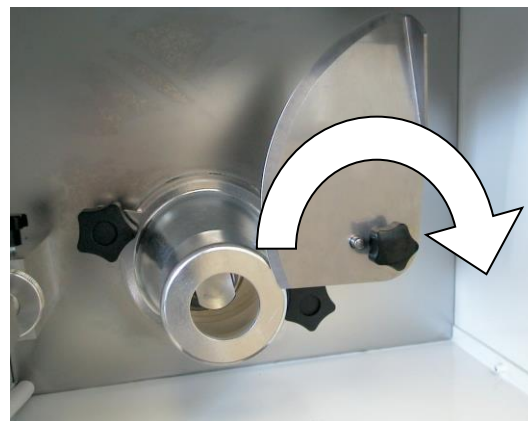

Fig. 6
2. SVITATE LA MANOPOLA CHE FISSA IL COLTELLO E TOGLIETELO (Fig.6)